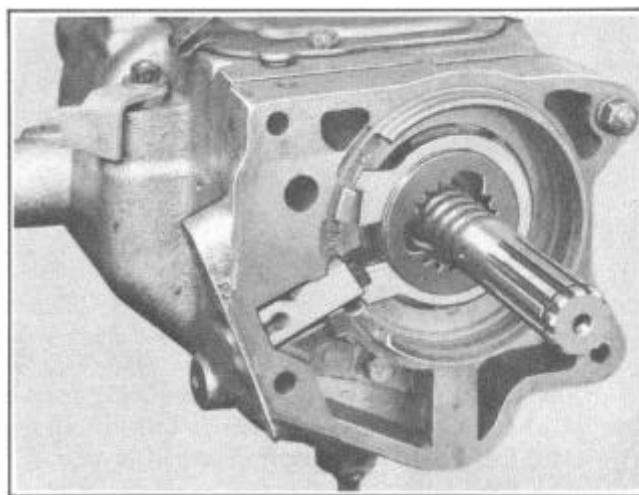

FIGURE 22
**NOTE:** Insert the pawl with the notched side up, be sure that the blocker ring and pawl are properly positioned before installing the snap ring, Figure 22. The interlock plunger is furnished in six different lengths. With pawl fully engaged in slot in stationary gear and one end of the interlock plunger contacting shift rail (NOT SLEEVE) there should be .008" to .021" clearance between the other end of the plunger and the side of the pawl. Select a plunger of proper length to give this clearance.